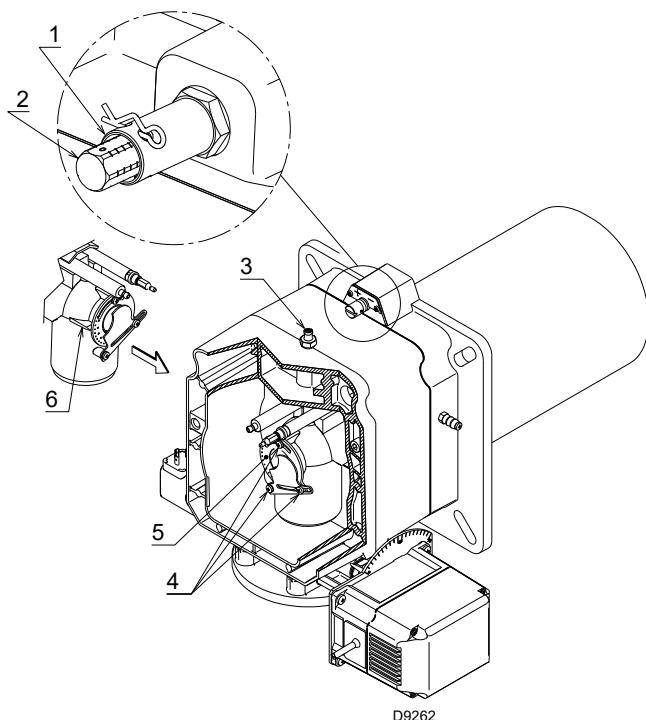

Fig. 18
- Rotate the screw 2)(Fig. 18) until the notch you have found corresponds with the front surface 1) of the flange.
To facilitate adjustment, loosen the screw 3)(Fig. 18), adjust and then lock.